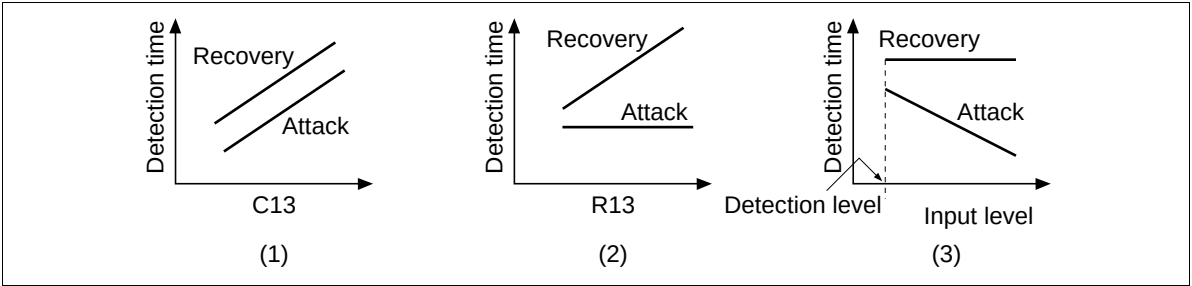

Figure 6 Function Characteristic of MS
Figure 6(1) generally shows that detection time is in proportion to value of capacitor C13. But, with Attack^{*2} and Recovery^{*3} the detection time differs exceptionally.
Like the figure 6(2), Recovery time is variably possible by value of resistor R13. But Attack time gets about fixed value. Attack time has dependence by input level. When a large signal is inputted, Attack time is short tendency.